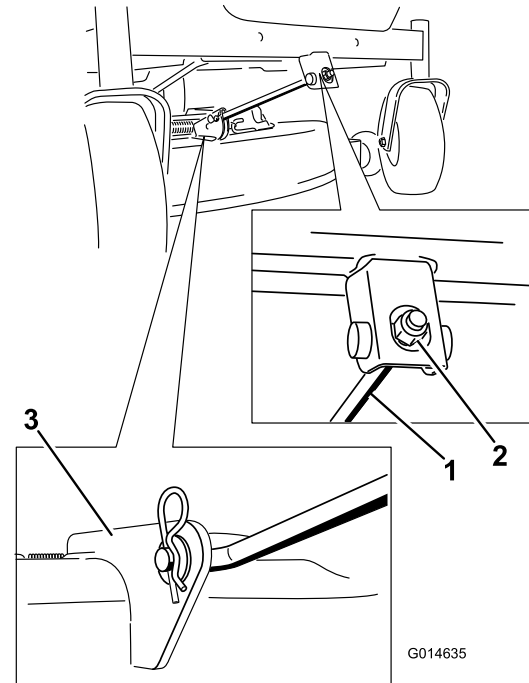

Figure 63
5. Remove the hairpin-cotter pin from the front support rod, and remove the rod from the deck bracket (Figure 63).
6. Attach the front support rod to the mower deck with the clevis pin and hairpin-cotter pin (Figure 63).